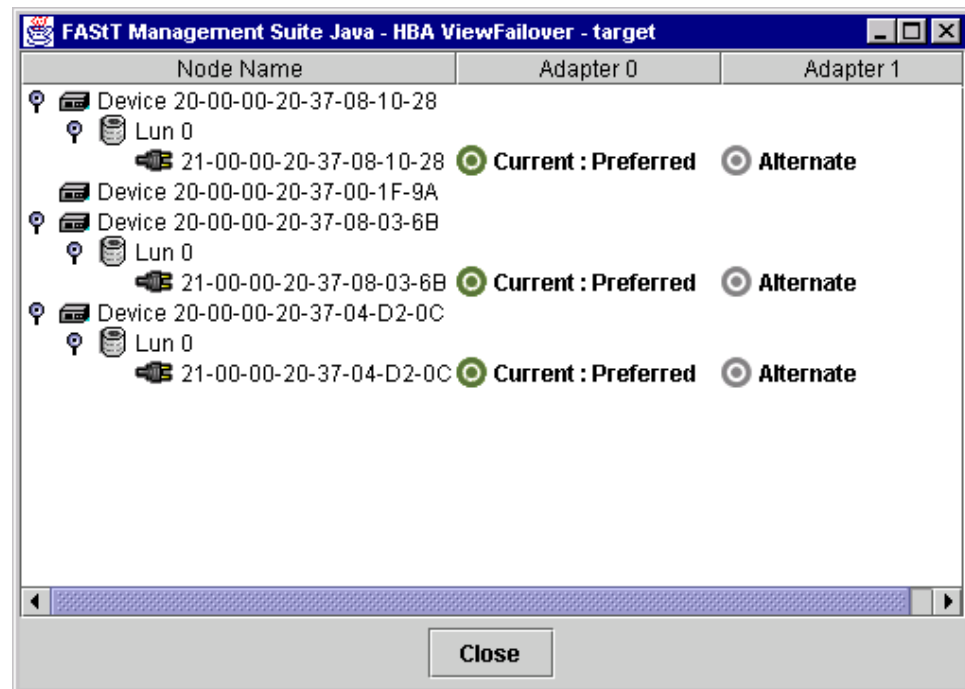

Figure 104. HBA View Failover window
- Right-click the host in the HBA tree. From the pop-up menu, click **Current Path**. The HBA View Failover window is displayed (see Figure 104).